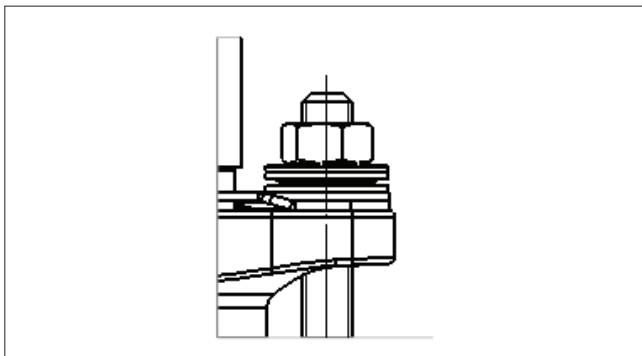

Fig. 13 Standard live-loading
- **For the standard live-loading option (Figure 13), please refer to Table 5 for the tightening torques. Install the disc springs one at a time, in opposite orientations, make sure the first installed disc spring has its wider area pointing down.**